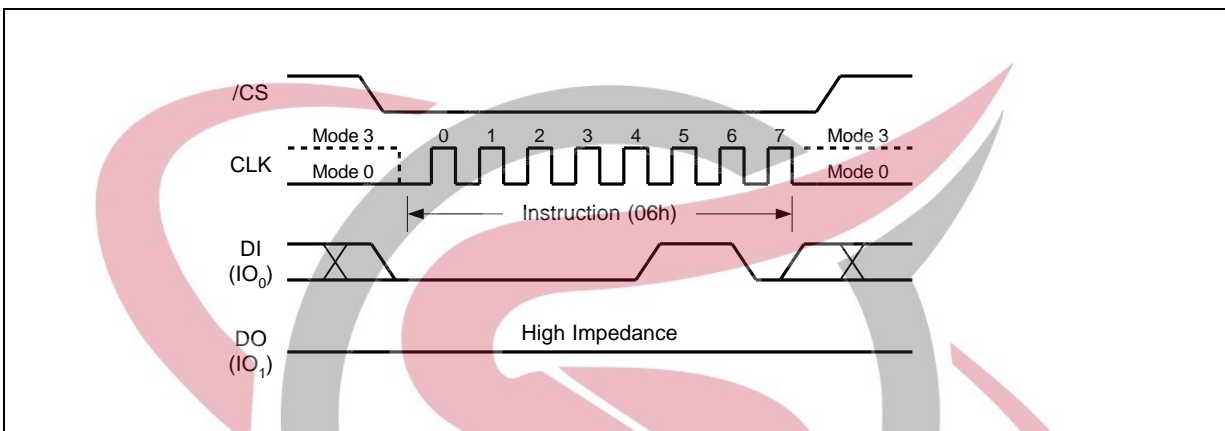

Figure 5. Write Enable Instruction
The Write Enable instruction (Figure 5) sets the Write Enable Latch (WEL) bit in the Status Register to a 1. The WEL bit must be set prior to every Page Program, Quad Page Program, Sector Erase, Block Erase, Chip Erase, Write Status Register and Erase/Program Security Registers instruction. The Write Enable instruction is entered by driving /CS low, shifting the instruction code "06h" into the Data Input (DI) pin on the rising edge of CLK, and then driving /CS high.